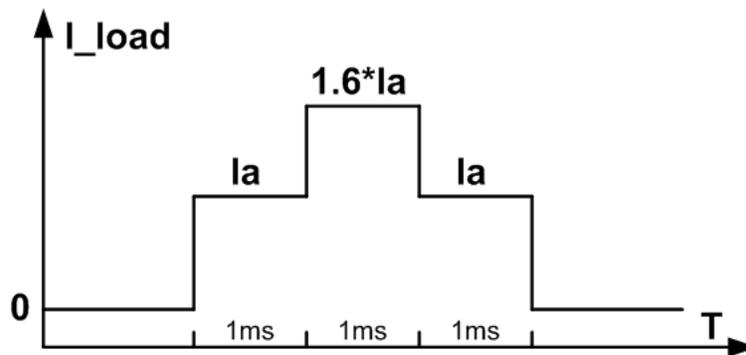

Figure 2. Load Waveform of MFi OCP Test
1. The test load waveform is shown in Figure 2.